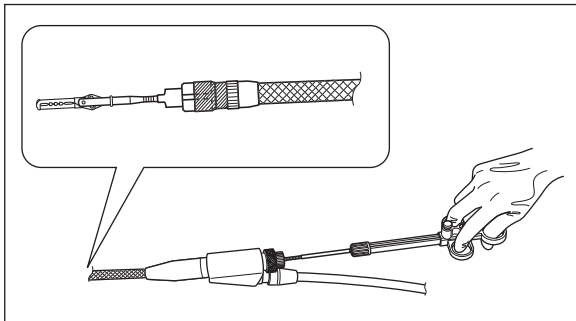

Figure 3.19
2. Pull the slider to close the forceps section so that it actually holds the foreign object (see Figure 3.19).